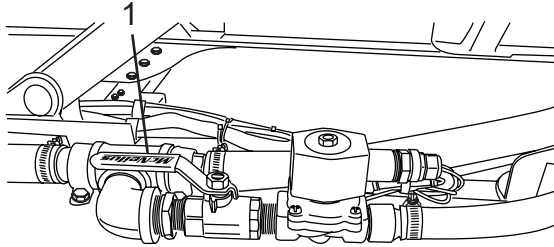

Figure 88
1. Open the water injection ball valve (Figure 88, Item 1).
4. Close the water injection ball valve (Figure 88, Item 1).